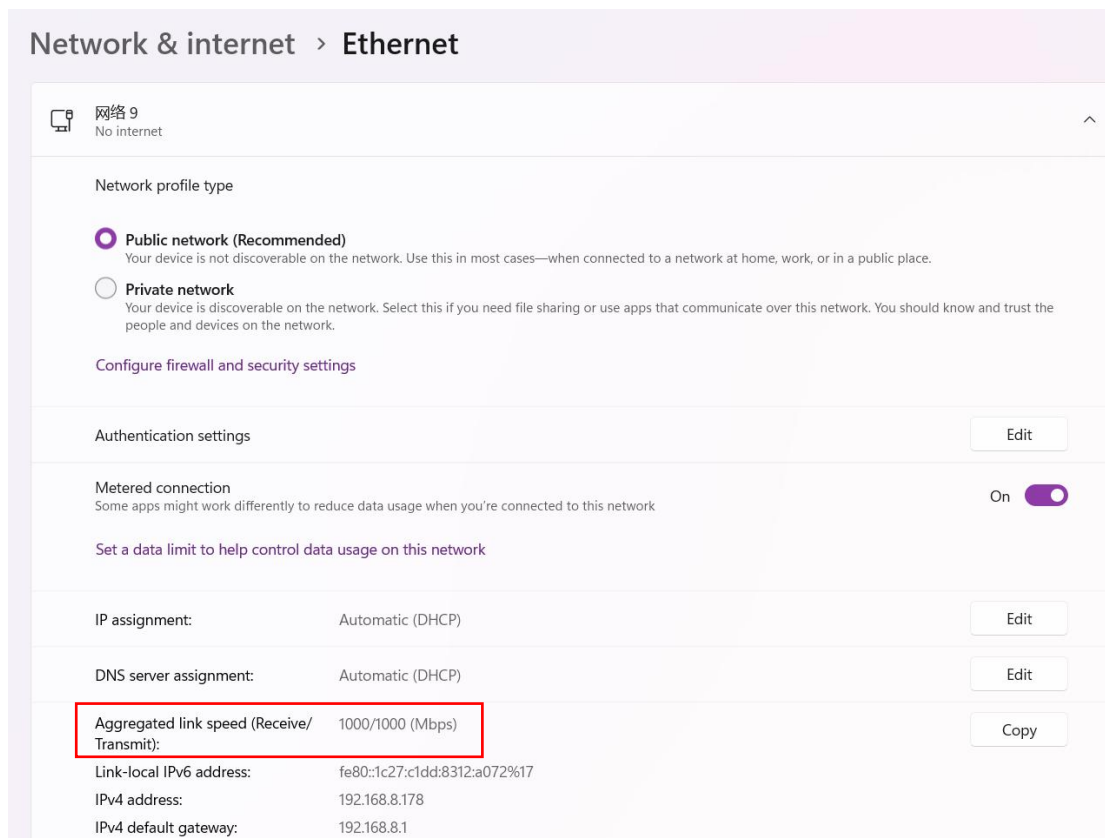

Figure 4-9 Check Router Connection Speed
5. **Verify Router Connection Speed:** Navigate to This PC > Properties > Network & internet > Ethernet > Properties and confirm that the Link Speed (Receive/Transmit) is 1000/1000 (Mbps) (i.e., Gigabit speed), as shown in Figure 4-9.